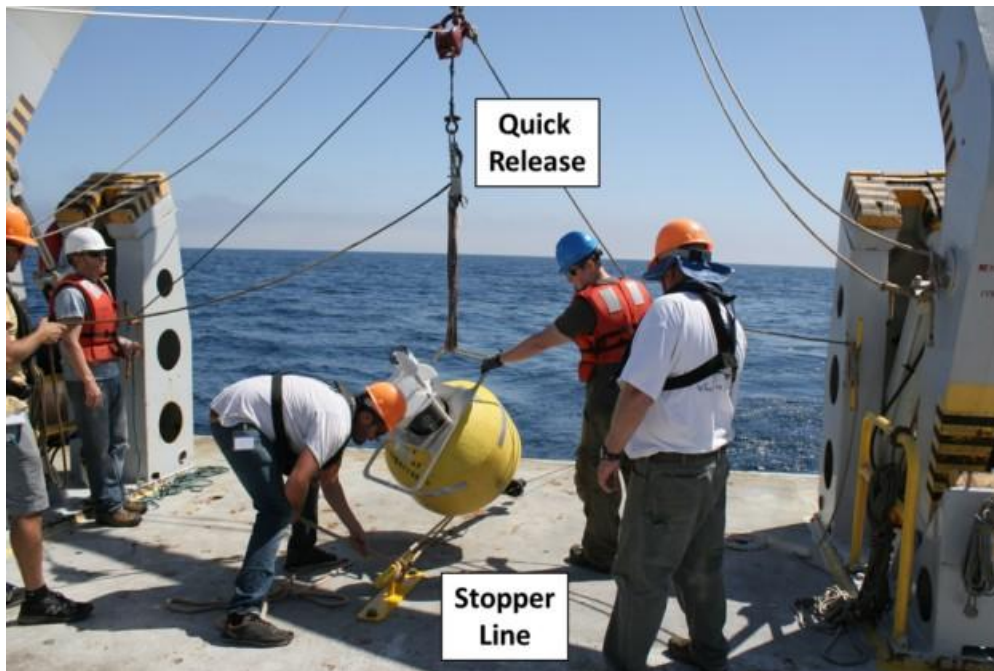

Figure 12: Quick Release, surface float and stopper line during deployment.
- Connect a Quick Release to the winch line. Connect a hoisting strap to the Quick Release with the other end run through an accessible pick point on the surface buoy as shown in Figure 12.
- Start to take some of the load from the surface buoy up via the winch line. Have positive control of the surface buoy as it is raised (Figure 12).